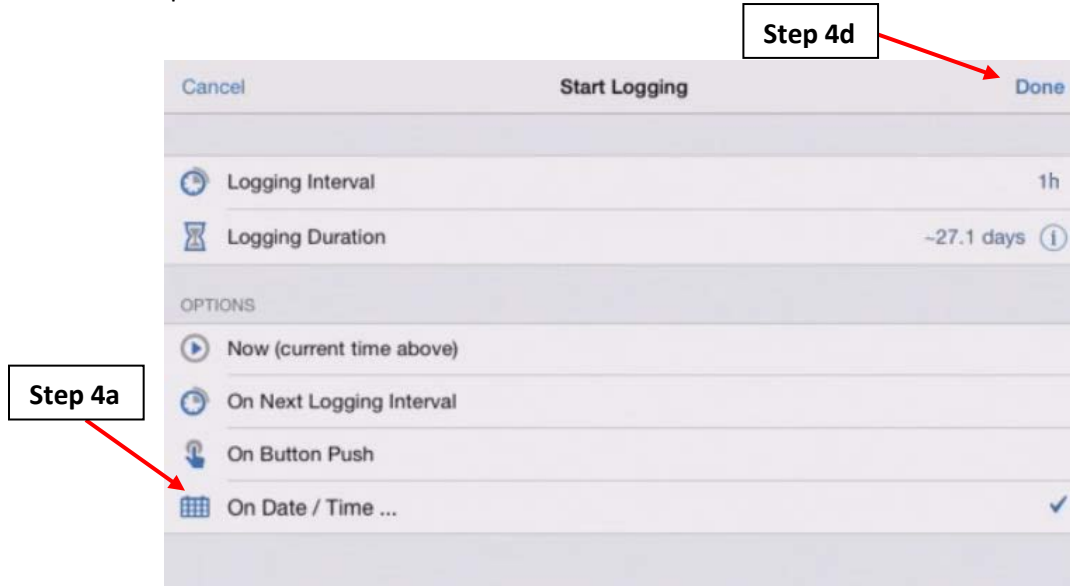

Figure A.7.7: The “Start Logging” screen.
4. Select the “Start Logging” option to go to the “Start Logging” screen as shown on Figure A.7.7.
- d. Tap “Done” (Figure A.7.7) on the “Start Logging” screen to complete start date and time setup.